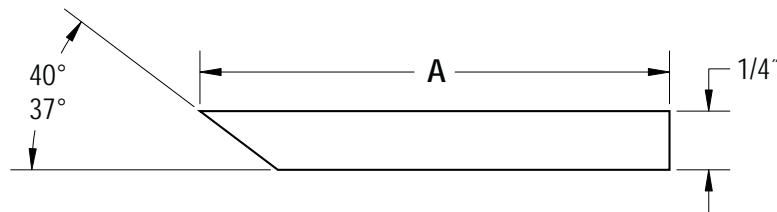

Figure 8 - Knife
2. Shut the machine off and open the rear access door above the airlock. Remove any buildup under the floor pan between the chain links, and the rear catch pan, so that an accurate measurement can be made. Check the tension on the floor chain in the Bark Blower, as shown in Figure 8 below: